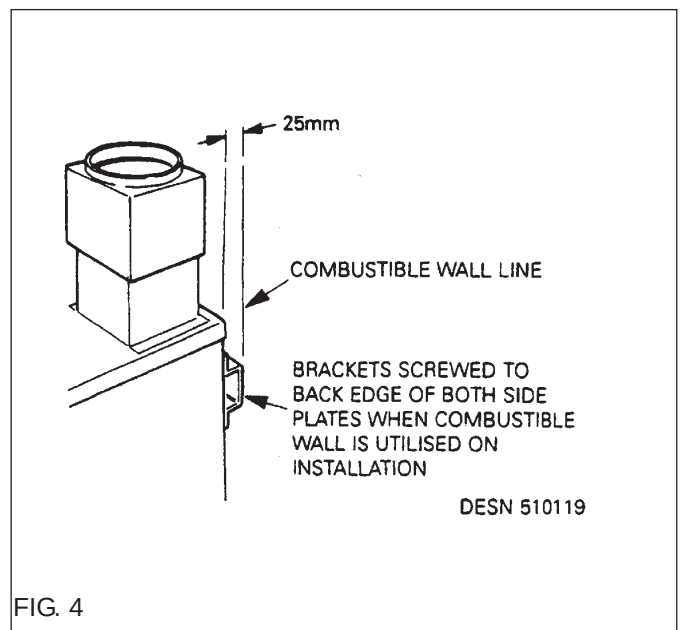

FIG. 4
2. Appliance Rear Distance Bracket - (For use when appliance is installed 25mm away from a rear wall of combustible material). See Fig. 4.
NOTE: IF THE REAR WALL IS OF COMBUSTIBLE MATERIAL, THERE MUST BE AN AIR GAP OF 25mm BETWEEN THE WALL AND REAR OF APPLIANCE. FIT REAR DISTANCE BRACKET AS SHOWN IN FIG. 4.